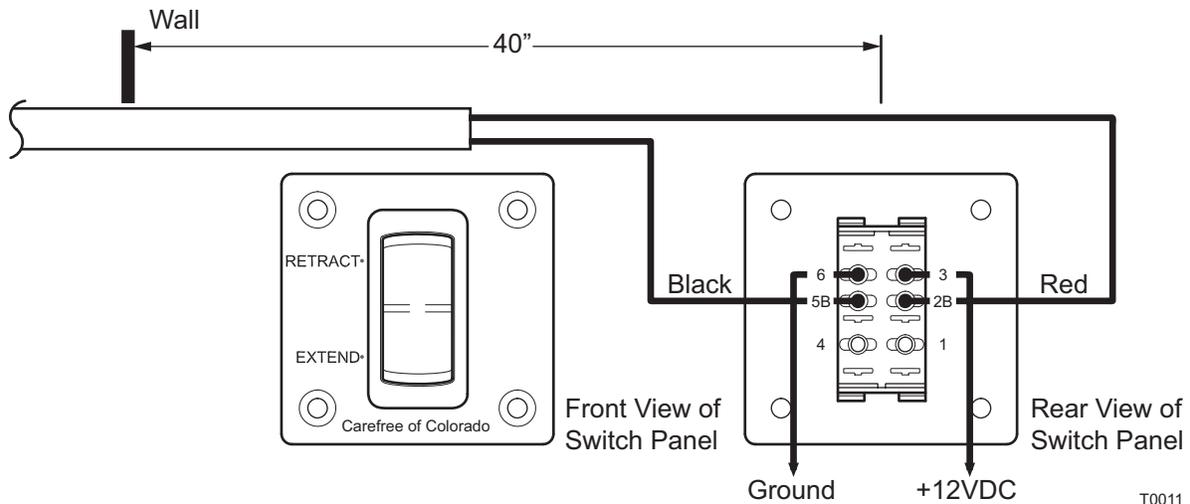

Figure 10. Switch Wiring.
8. Attach the four wires to the switch as shown. *(Refer to Figure 10)*
9. Push the wires and switch into the mounting hole and secure the plate using four (4) #6 x 1/2” screws.